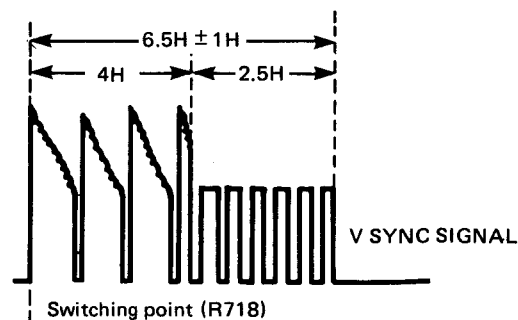

Figure 91.
4. Adjust R718 so that the output of CH-1 falls at  $6.5H \pm 1H$  ahead of V-sync signal output of CH-2. See Fig. 91.